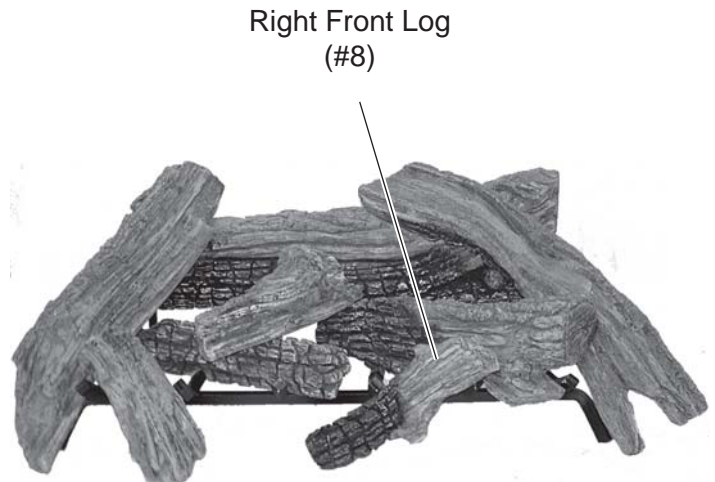

Figure 91 - Resting Front Right Log (#8) on Top Right Log and Front of Burner Pan
9. Rest Right Front Log #8 on top right log #4 and front of burner pan. See Figure 91.